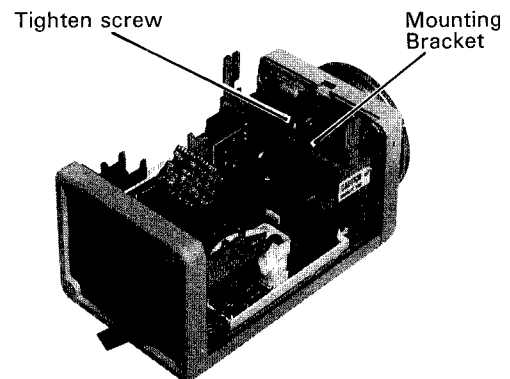

Fig. 2-4
- Referring to Fig. 2-4, mount the Mounting Bracket by removed screw.